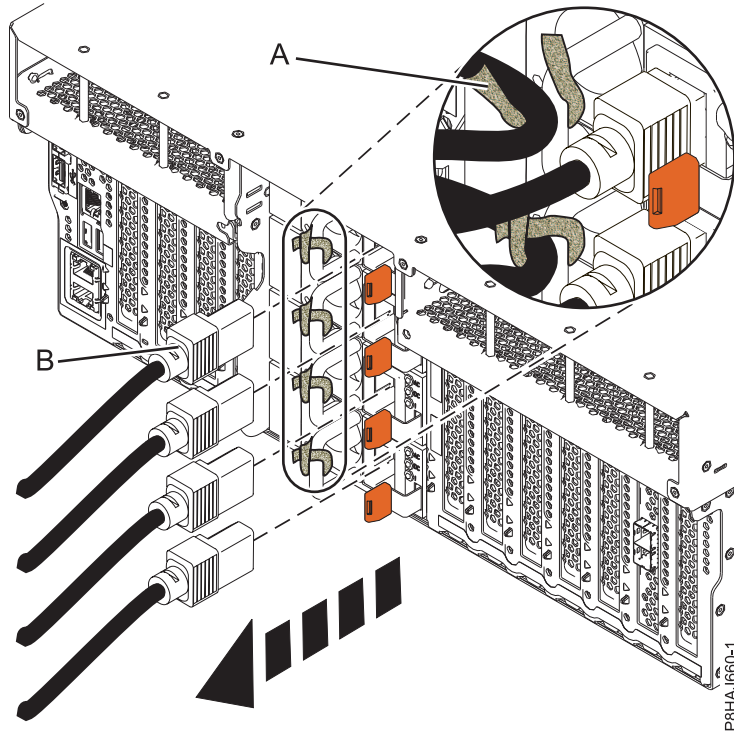
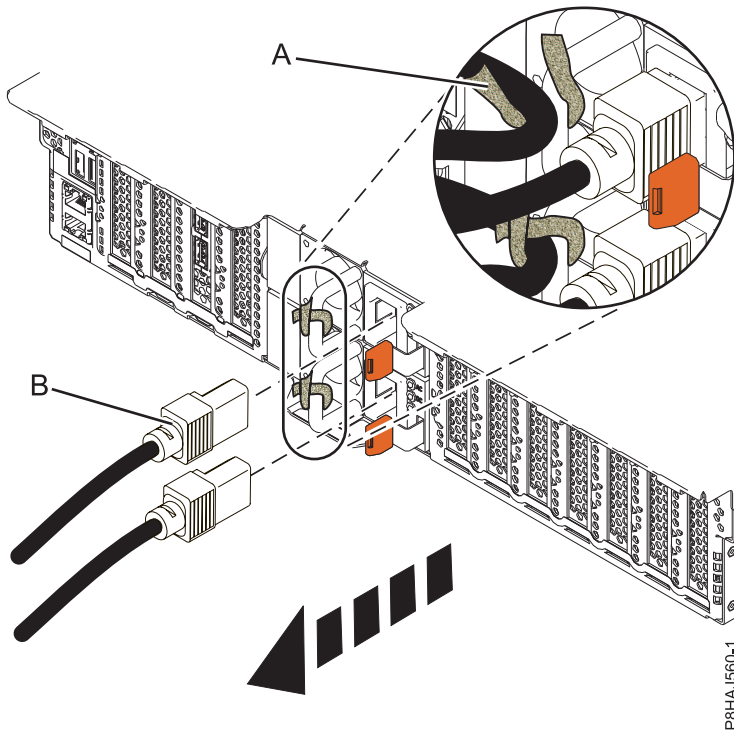
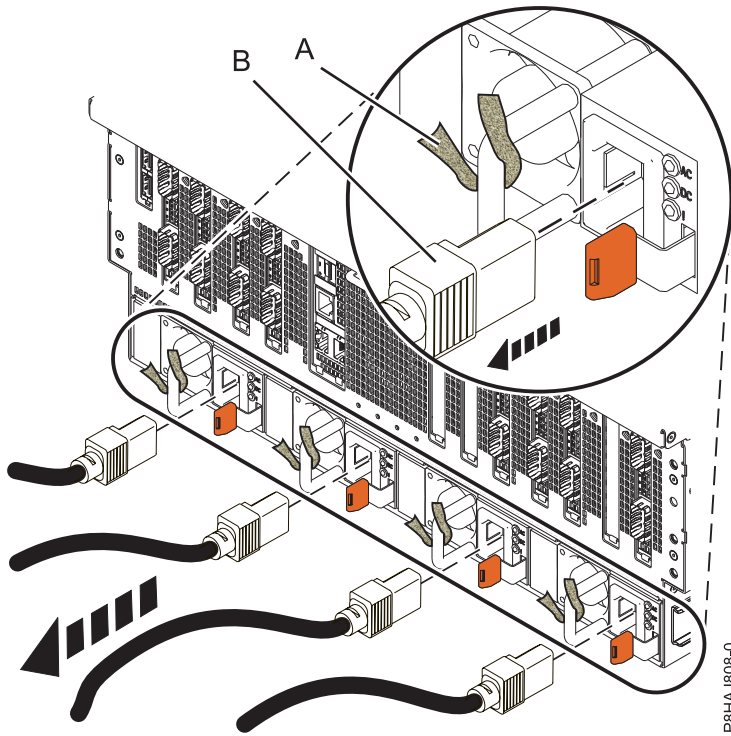

Figure 102. Removing the power cords from an 8247-42L, 8286-41A, or 8286-42A system
Figure 103. Removing the power cords from an 5148-21L, 5148-22L, 8247-21L, 8247-22L, 8284-21A, or 8284-22A system
Figure 104. Removing the power cords from an 8408-44E or 8408-E8E system
3. Disconnect the power cords (B) from the system unit. See Figure 102 on page 117, Figure 103 on page 117, or Figure 104 on page 118 or depending on the type of your system.